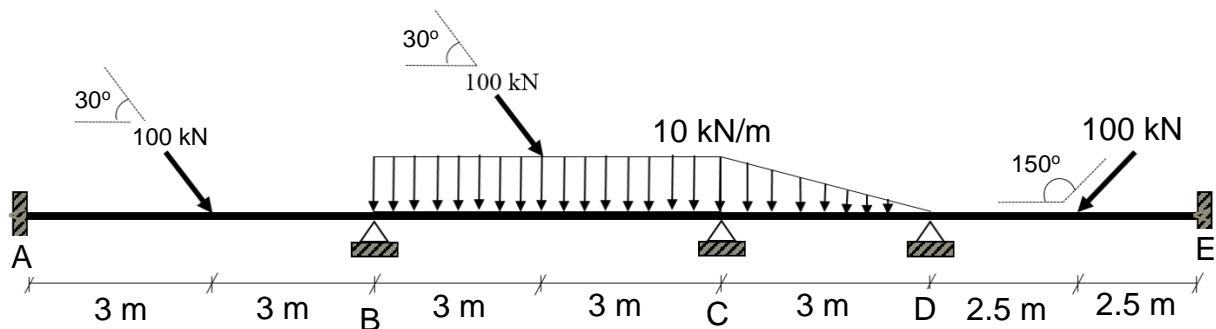

Figure 2
2. **Figure 2** shows a beam carrying a point load of 100 kN at spans AB, BC and DE acting at 30° and 150° with certain distance. Meanwhile, span BC carrying a uniform distributed load of 10 kN/m and span CD carrying a distributed load varying from 10 kN/m at C to 0 kN/m at D. Supports A and E are fixed, whereas supports B, C and D are pinned. EI is constant for the beam.